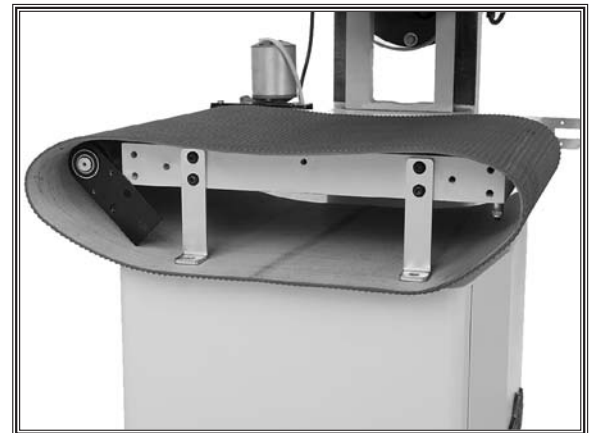

Figure 39. Removing the conveyor belt from the machine.
9. With assistance, lift the left side of the conveyor assembly up approximately 1", then remove the conveyor belt, as shown in **Figure 39**.